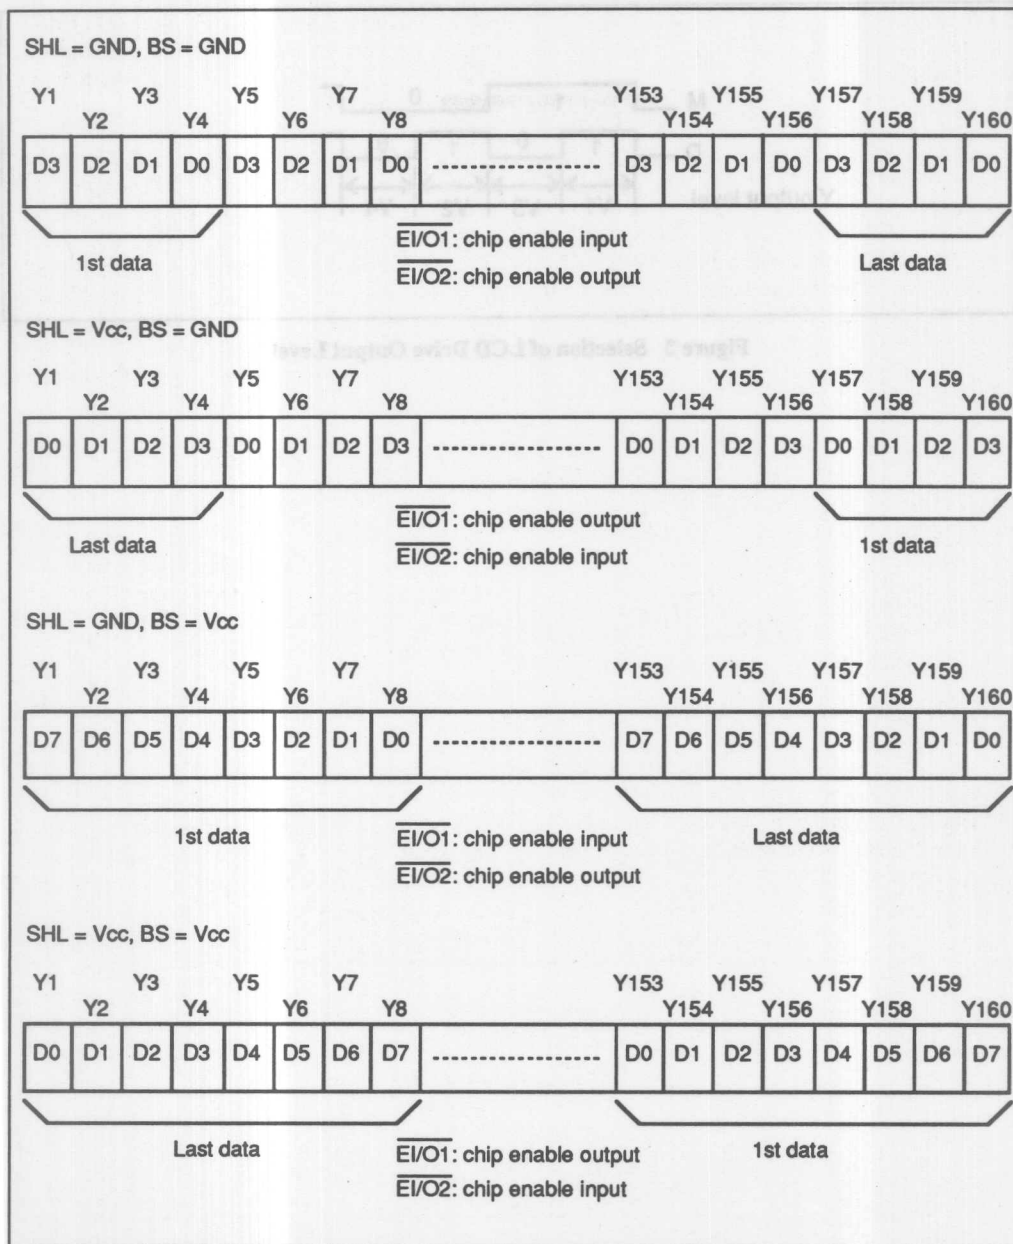

Figure 2 Selection of Destinations of Display Data Output
**SHL:** Shifts the destinations of display data output, and determines which chip enable pin ( $\overline{\text{EI/O1}}$  or  $\overline{\text{EI/O2}}$ ) is an input and which is an output. See figure 2.